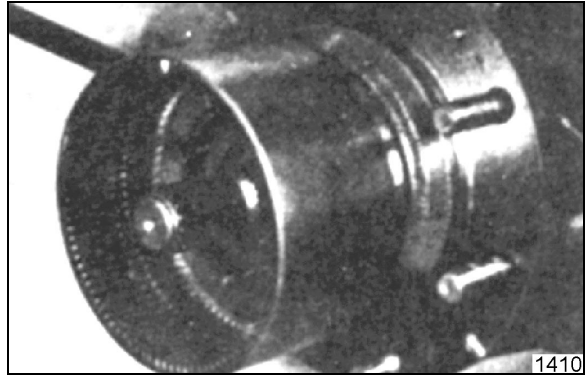

Figure 14
12. Remove ring carrier, being careful not to lose angle ring and O-ring (Figures 14 and 15).